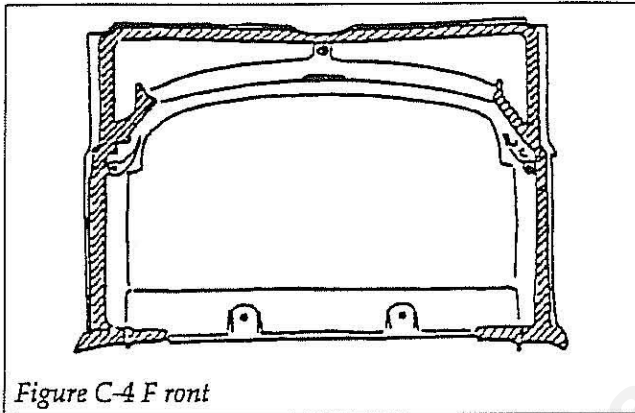

Figure C-4 Front
8. Install threaded stems in the tapped holes in the left and right back edges of the stove front. Cement all mating surfaces on the stove front as shown in figure C-4. Put the air manifold in position on the inside of the stove front and secure with one hex bolt, 1/4-20 x 2" long.